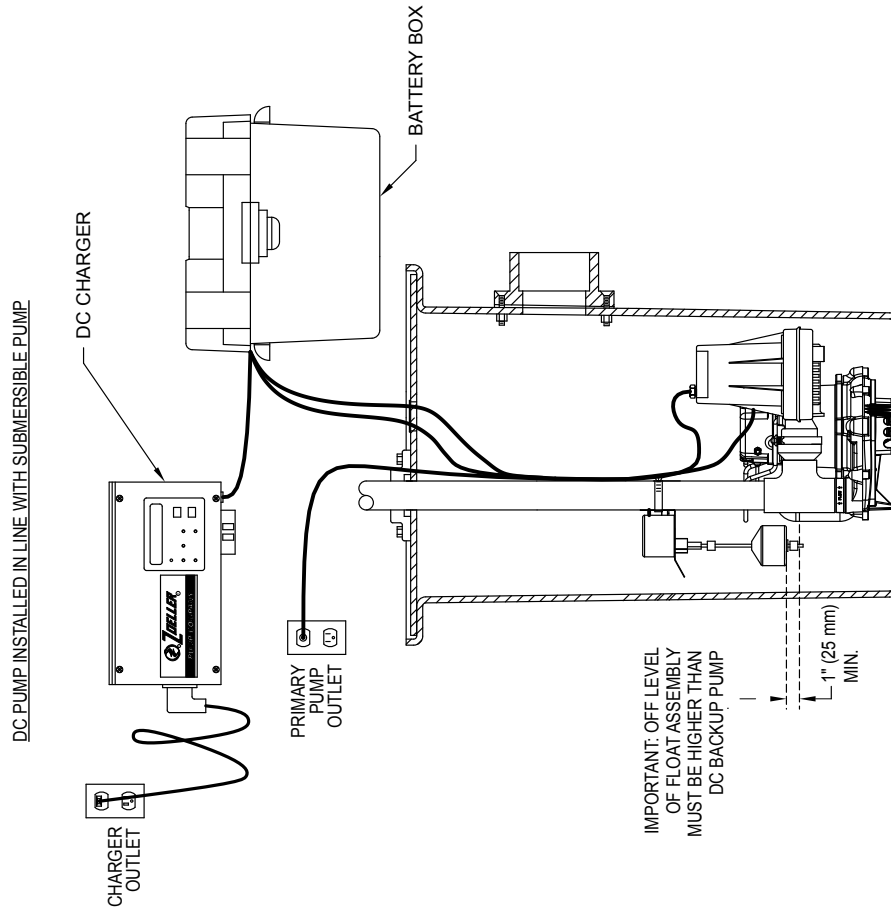
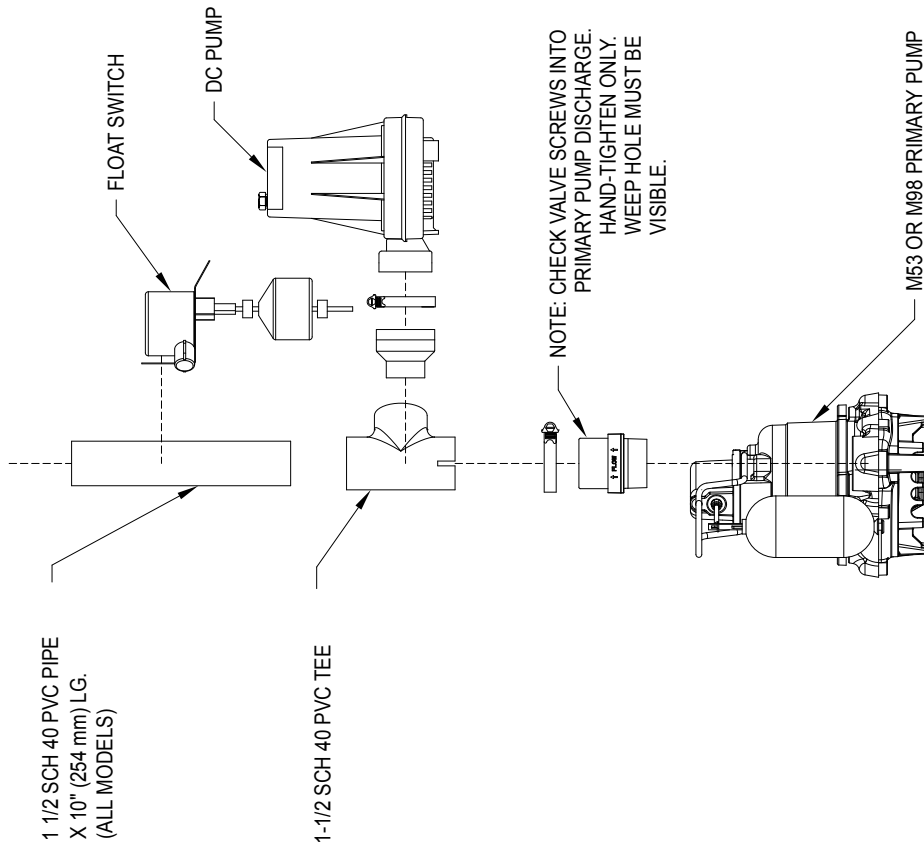

FIGURE 1
FIGURE 2
1. Ensure O-ring is properly located on pump discharge. Slide DC pump into fitting and tighten the hose clamp (see Figure 2).
2. The preferred method of installation for backup pumps is shown in Figure 1. The installation kit includes one check valve for installing with the backup pump discharging into the primary pump outlet pipe. An additional check valve is incorporated in the discharge of the backup pump.
4. Make certain the float switch clamp is tight on the pipe to avoid slippage. Ensure that the "off" level of the float is 1" (25 mm) min. above the discharge tee of the DC backup pump (see Figure 1). Position pumps in the sump and move float up and down, making sure of free movement without interference from any obstructions inside the sump or lid. Very shallow sumps may require some adjustment to avoid overflowing or backing up of water into the sump inlet. The float switch can be moved on the discharge pipe or the rubber stops can be adjusted as necessary. Cut extra float rod length below lower float stop to prevent debris from interfering with float operation (see figure 2).